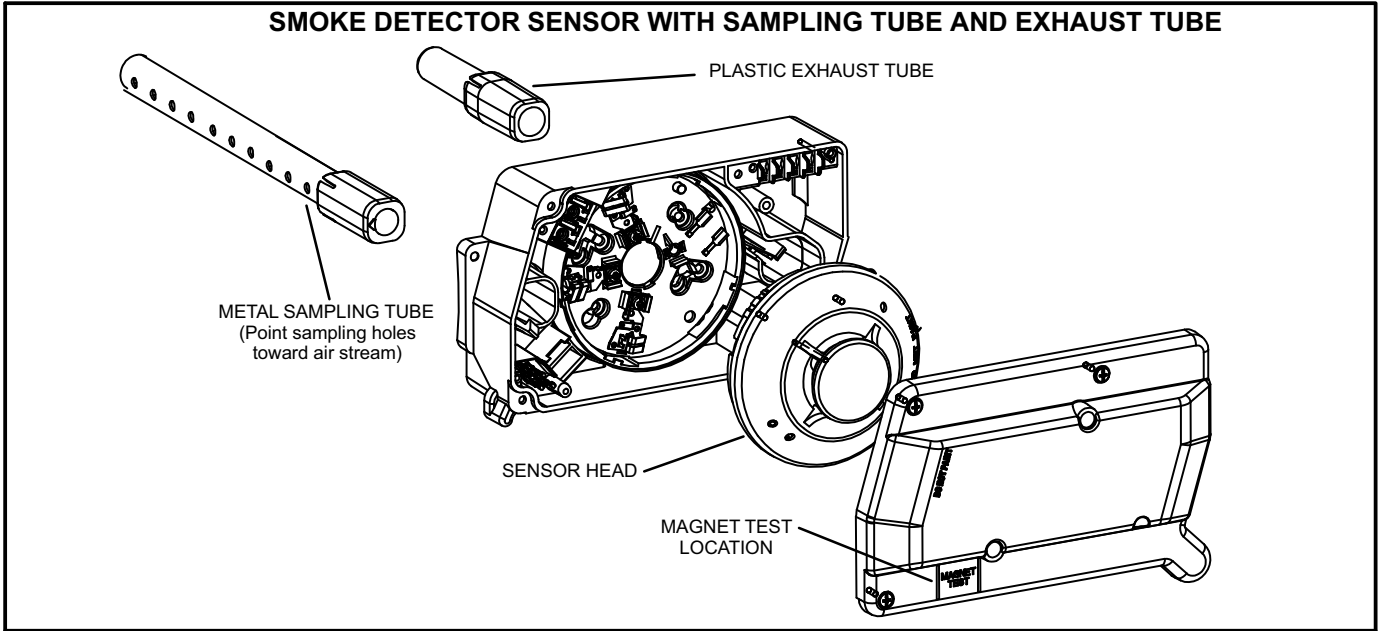

FIGURE 3
- 2- Slide metal sampling tube and plastic exhaust tube onto the back side of the sensor as shown in figure 3.